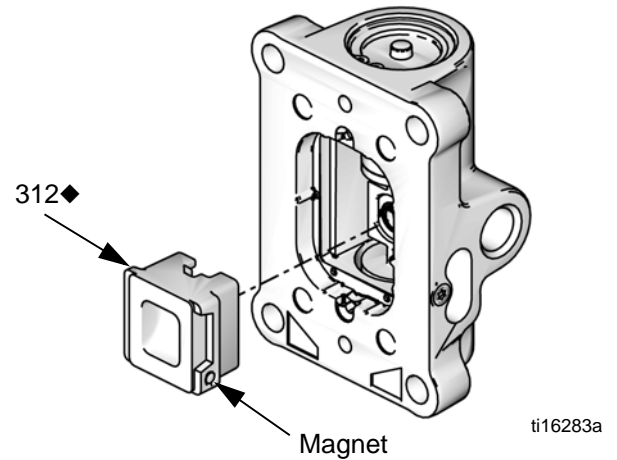

FIG. 15. Air Valve Cup Installation
7. Install the spring (311♦). Lubricate and install the air valve cup (312♦), see FIG. 15. Align the small round magnet with the air inlet.